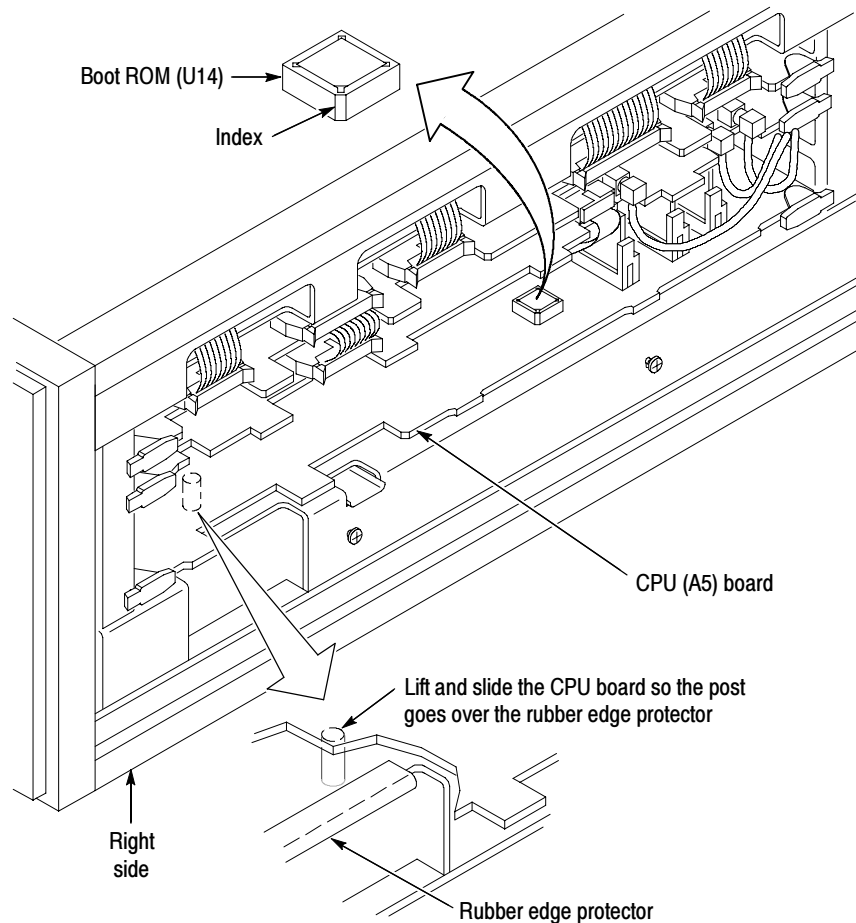

Figure 13: Replacing the Boot ROM
- b. Slide the CPU (A5) circuit board out until you can reach the Boot ROM (A5U14). You may need to lift the CPU (A5) circuit board over a board post located below the board. See Figure 13.
circuit board as shown in Figure 13. Note the index on the corner of the Boot ROM (A5U14).